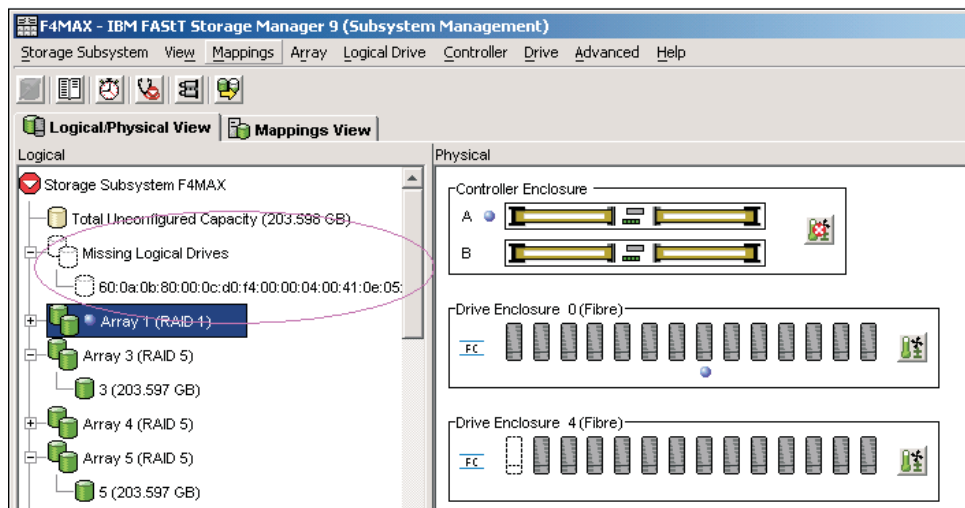

Figure 23. Subsystem Management Logical/Physical View of missing logical drives
7. Wait for the storage manager to mark the arrays/logical drives as missing in the Subsystem Management window. See Figure 23. **Do not proceed to step 8 until all of the defined logical drives in the array(s) whose drives are removed from the DS4000 enclosures display as missing.**